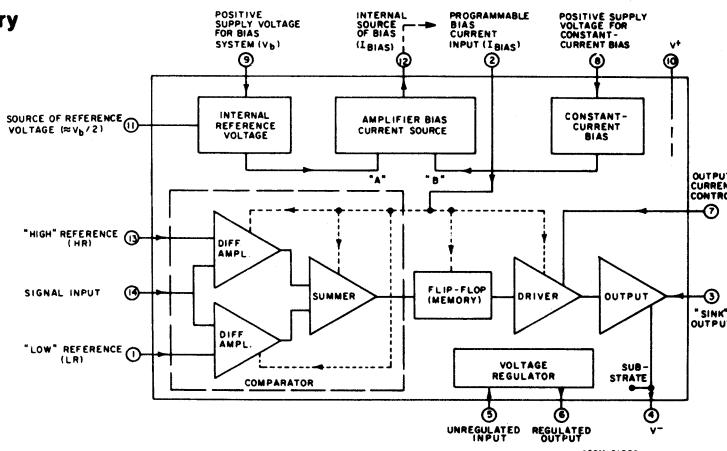

Fig. 1—Block diagram of CA3099E programmable comparator.
RCA-CA3099E Programmable Comparator is a monolithic silicon integrated circuit designed to control high-operating-current loads such as thyristors, lamps, relays, etc. The CA3099E can be operated with either a single power supply with maximum operating voltage of 16 volts, or a dual power supply with a maximum operating voltage of  $\pm 8$  volts. It can directly control currents up to 150 mA. It operates with microwatt standby power dissipation when the current to be controlled is less than 30 mA. The CA3099E contains the following six (6) major circuit-function features (Figure 1):